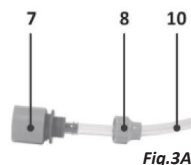
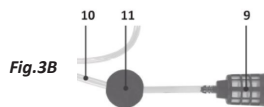

Fig.3A
Fig.3B
- Remove the hose connection ring (8) from the hose connector (7).
- Place the ring (8) on one end of the hose (10).
- Insert the same end of the hose into the hose connector (Fig. 3A).
- Pass the other end of the tube (10) through the hole in the water float (11).
- Push the same end of the tube into the suction filter (9), (Fig. 3B).